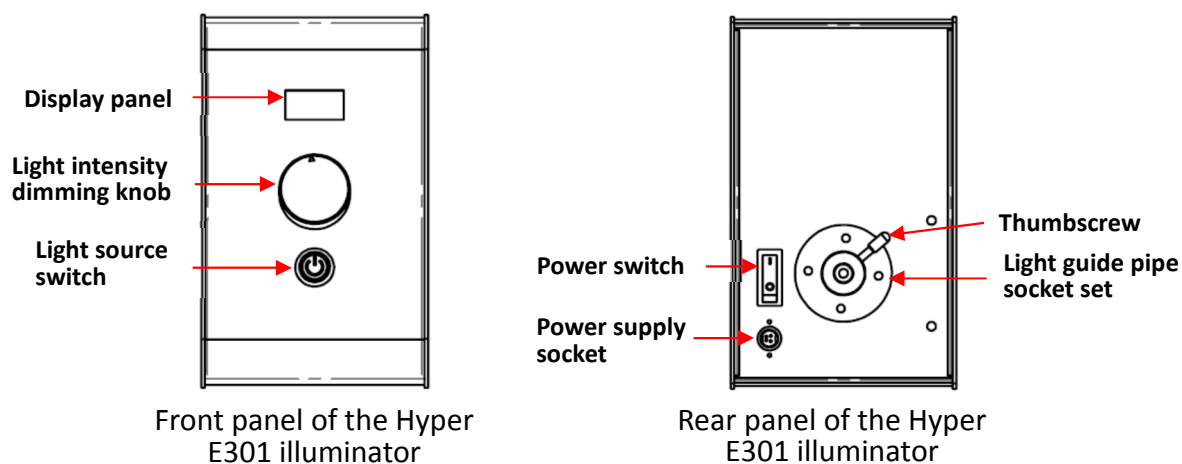
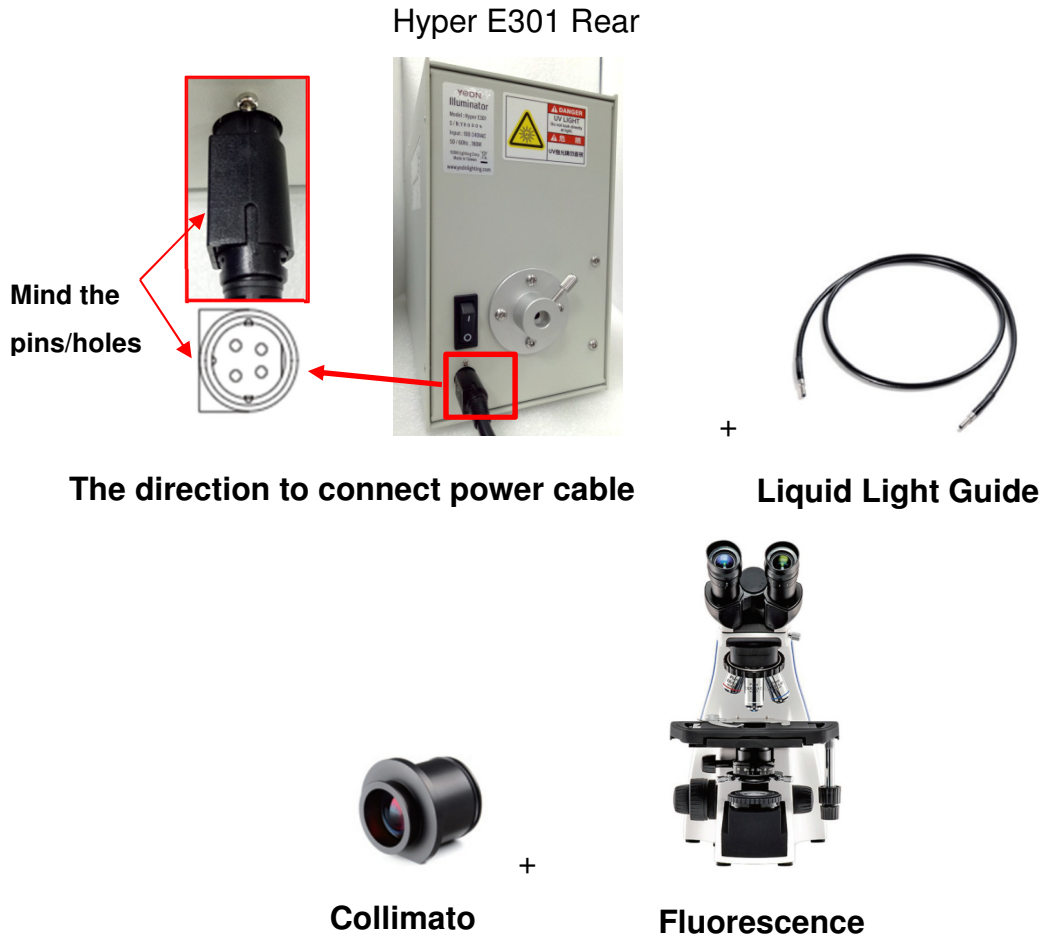

Figure 1: Function description of the illuminator
Figure2: Accessories & Setup Illustration
The function description of the illuminator (Figure 1), the DC power supply connector has a directional limit. When connecting the DC power supply, please insert it according to the direction of the socket on the back of the illuminator (Figure 2). In case of an emergency, when the power needs to be quickly turned off to the unit, turn off the power by pressing the power switch on the rear panel of the illuminator. The location of the DC power supply socket and power switch is located on the rear panel of the illuminator (Figure 2). Before starting the power supply operation, remove the protective sleeves on both sides of the light guide pipe, and the light guide pipe output is placed in a safe and closed optical path (for example, connect the light guide pipe to the input of collimator to the microscope).
- c The power supply connector is indeed connected to the Hyper E301 illuminator (Figure 2).